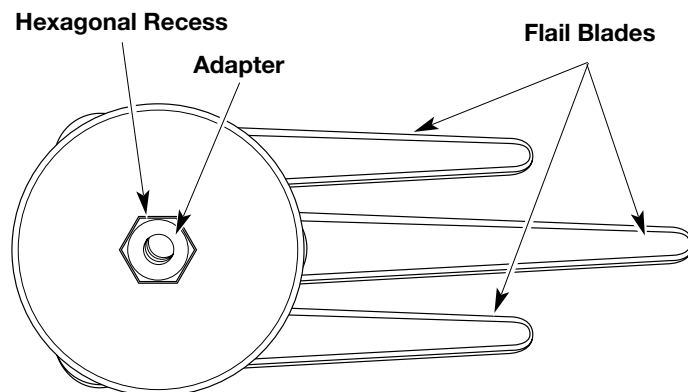

Fig. 10
1. Place the assembled Flail Head with the Flail Head Bottom and Hexagonal Recess and Adapter facing upward. Move the Flail Blades together (Fig.10).